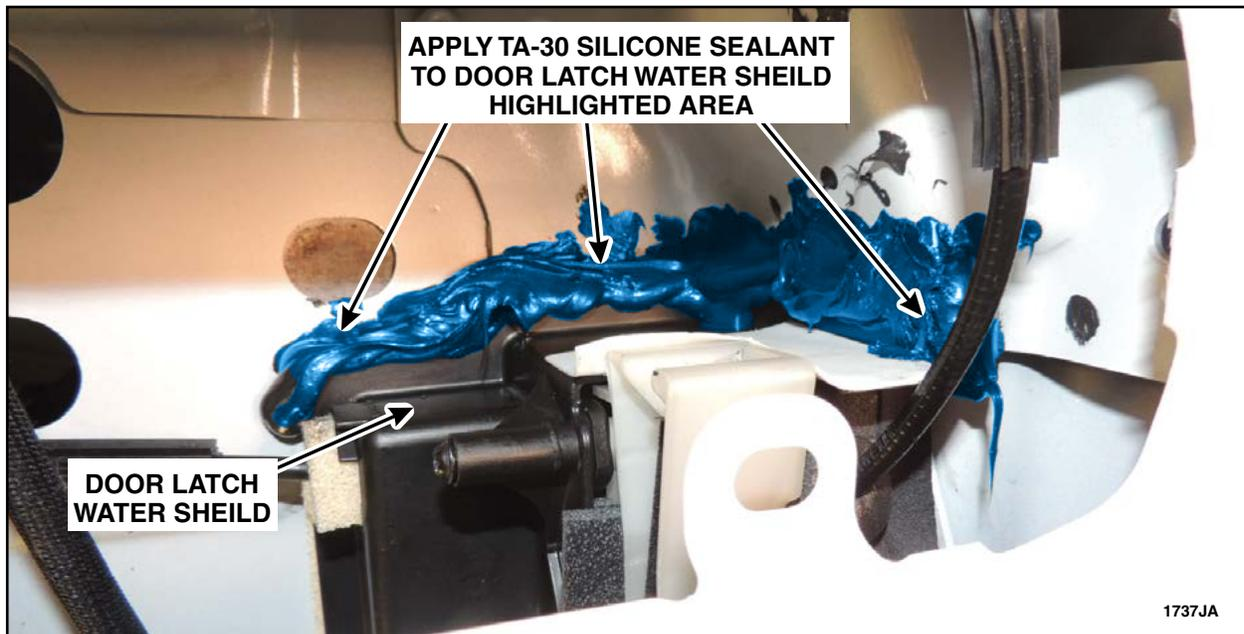

FIGURE 84
6. Apply Motorcraft® TA-30 silicone sealant in and over the mating area of the water shields to the door. Using light finger pressure smooth the bead of silicone. See Figure 84.